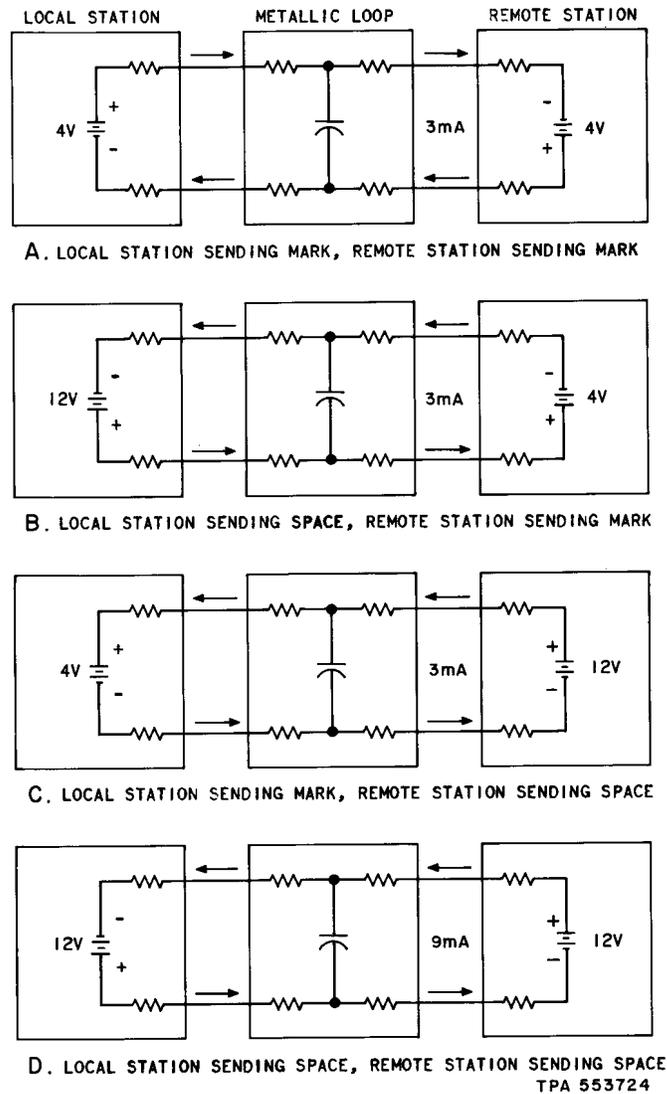

Fig. 4—Transmission States of Data Sets 109-Type (FDX System)
3.04 The basic dc transmission system consists of a pair of data sets 109-type at each end of a 2-wire metallic loop (see Fig. 3). Each data set applies either a mark or space voltage to the metallic loop and monitors the loop current for a mark or space. The voltage applied to the loop by each data set can develop three possible current levels. Internal logic within each data set allows incoming data to be recovered from the loop current. All possible transmission states and the signal detected by each data set are shown in Table D and Fig. 4.
Note: The metallic loop connections to the data sets are made so that when both data sets transmit a mark, the voltages applied to the loop are series-aiding. Refer to Fig. 4.